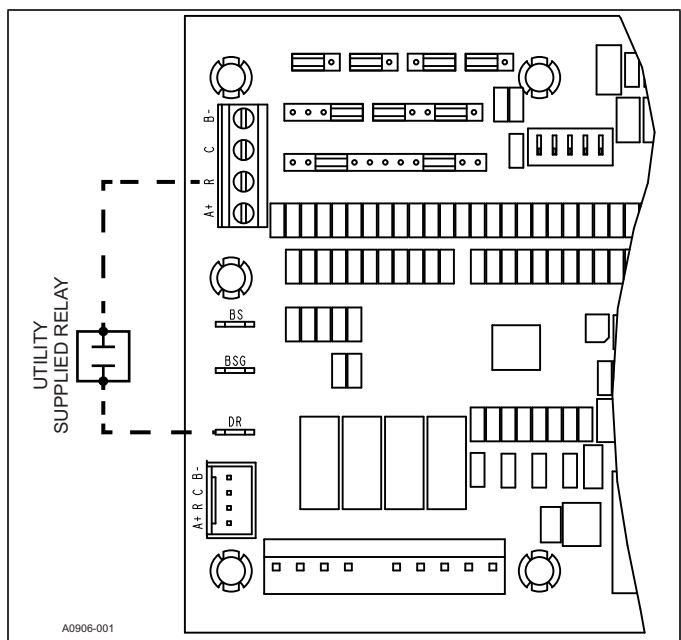

FIGURE 12: Demand Response Wiring
The outdoor control has a conventional 24VAC input (DR) for utility demand response signals. When a 24VAC signal is present on the DR input with a **communicating system**, the HX™ thermostat will adjust the indoor temperature setpoint by the installer selected setting. For further details on available settings, please refer to the HX™ thermostat installation and operation manual. With a **non-communicating system**, a 24VAC signal on the DR terminal will not allow the system to run in second stage, cooling operation only. The DR input terminal location can be found in Figure 12.